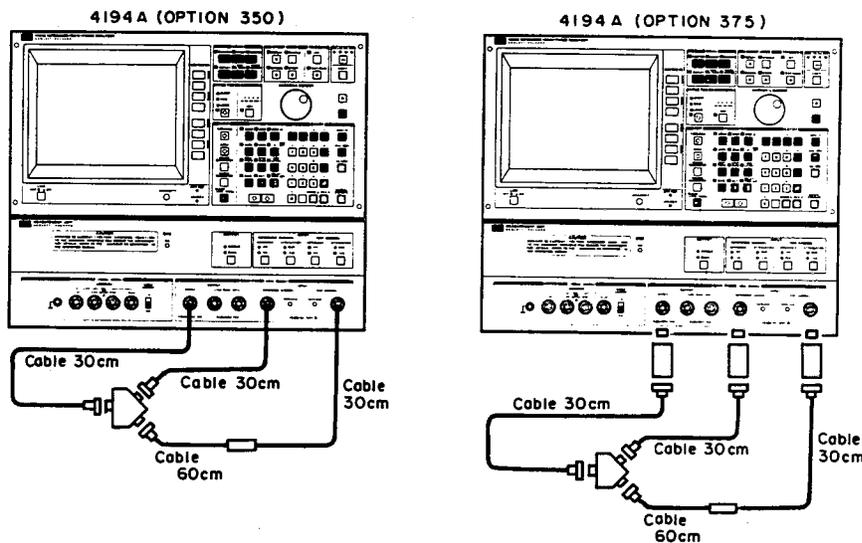

Figure 4-7. HP 8495A Attenuator Calibration Setup 1
1. Set up the 4194A as shown in Figure 4-7.